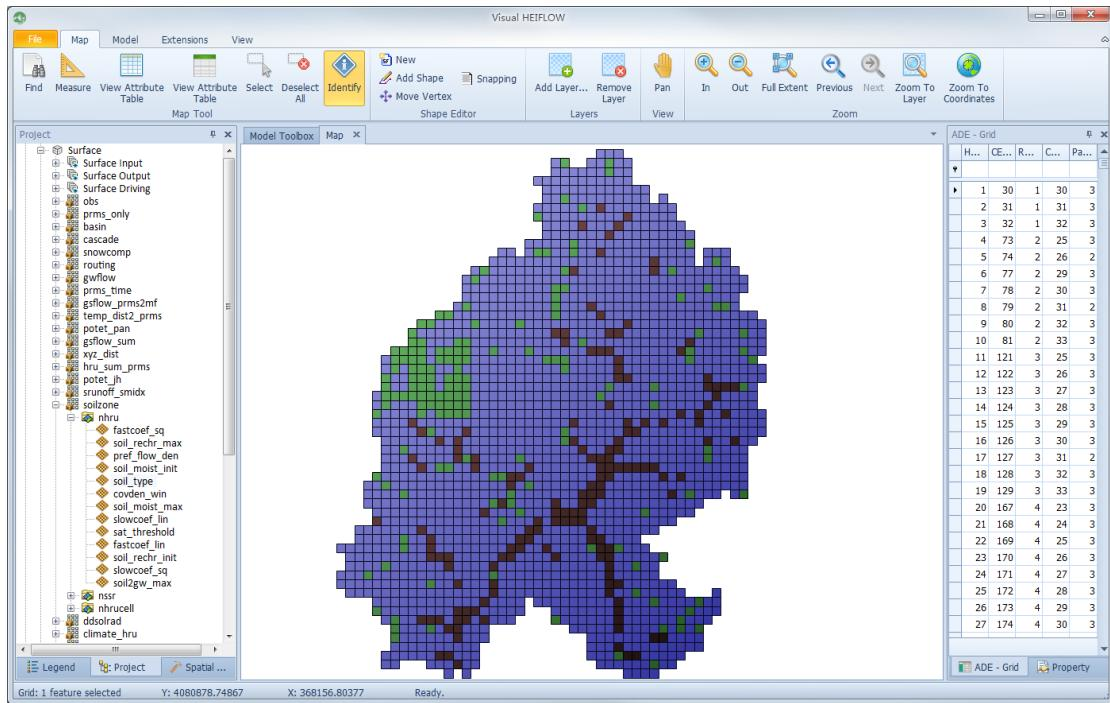

Figure 5-8. Map View of the soil_type parameter
- 8) In the Project Explorer, navigate to soil_type parameter, right click on it and select “Map View...” from the prompted context menu, then the “Grid” layer in the map looks like Figure 5-8. Adjust displaying order of map layers in the Legend Panel if needed.